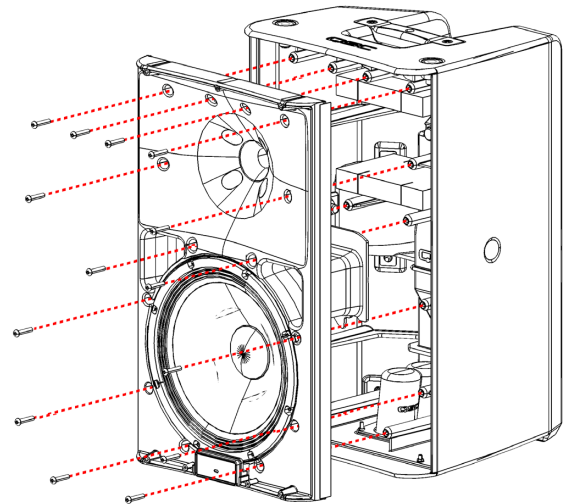

Figure 5.3.1 - Baffle assembly and enclosure
6. Fasten the screws that secure the baffle to the enclosure, starting with the corner screws. See Figure 5.3.1.